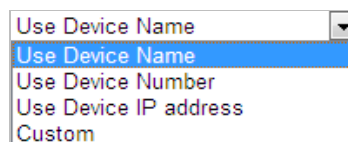

Figure 6-9 Parent Directory
- ▶ **Parent directory:** The files will be saved in a folder in FTP server. The name of folder can be defined as shown in Figure 6-9.